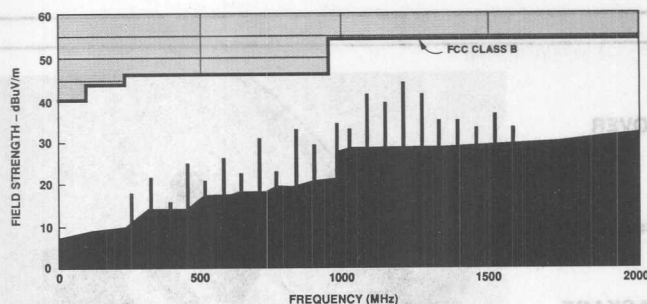

Figure 13. HFBR-5102, Typical Electric Field Strength at 3 m, 125 MBd.
31. The transceiver under test was supplied with a 62.5 MHz square wave (125 MBd) optical signal from outside a semi-anechoic chamber to the receiver section located inside this chamber. An input optical power level of -20 dBm average was applied. Electrical output signals from the receiver section were connected directly to the electrical input of the transmitter section of the test transceiver. In turn, the transmitter section returned the optical data to a receiver outside the test chamber to be compared for data integrity. The noise floor of Figure 13 is dictated by the measuring equipment. From DC to one GHz, one set of test instrumentation monitored the emissions. Above 1 GHz, a different instrumentation system measured emissions up to 2 GHz. The difference in the bandwidths of the two systems causes the discontinuity in the noise floor at 1 GHz.
32. Tested at 125 Mb/s and with a data-pattern PRBS  $2^7-1$ . The sampling clock is adjusted to minimum (0.0 ns) delay and incremented in 0.5 ns steps up to a total of 7.5 ns delay. At each clock delay increment, the BER is checked. The total number of delay positions (N) yielding a BER  $< 1E-5$  is recorded. The Receiver Saturation level is the highest input optical power at which  $N \geq 9$ .
Figure 13 shows typical radiated emissions from a sample of HFBR-5102 transceivers. The units meet FCC Class B far-field emission limits at three metres with the transceiver mounted on a printed circuit board in an open, unshielded environment within an approved semi-anechoic chamber. See note 31 for details on the test method.